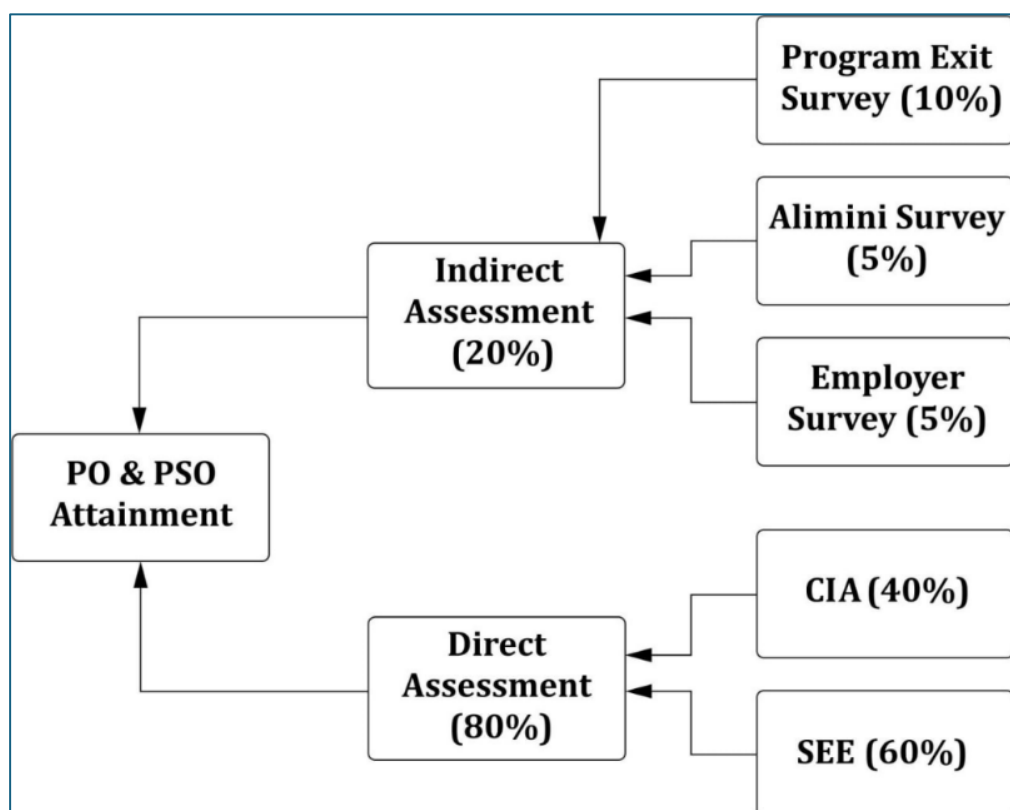

Figure 5: Evaluation Process of POs and PSOs Attainment
- Direct assessment is calculated through Continuous Internal Assessment (CIA) and Semester End Exam (SEE) and Indirect assessment through feedback form from program exit survey, employers/industry, and alumni The figure 5, represents the evaluation process of POs attainment.